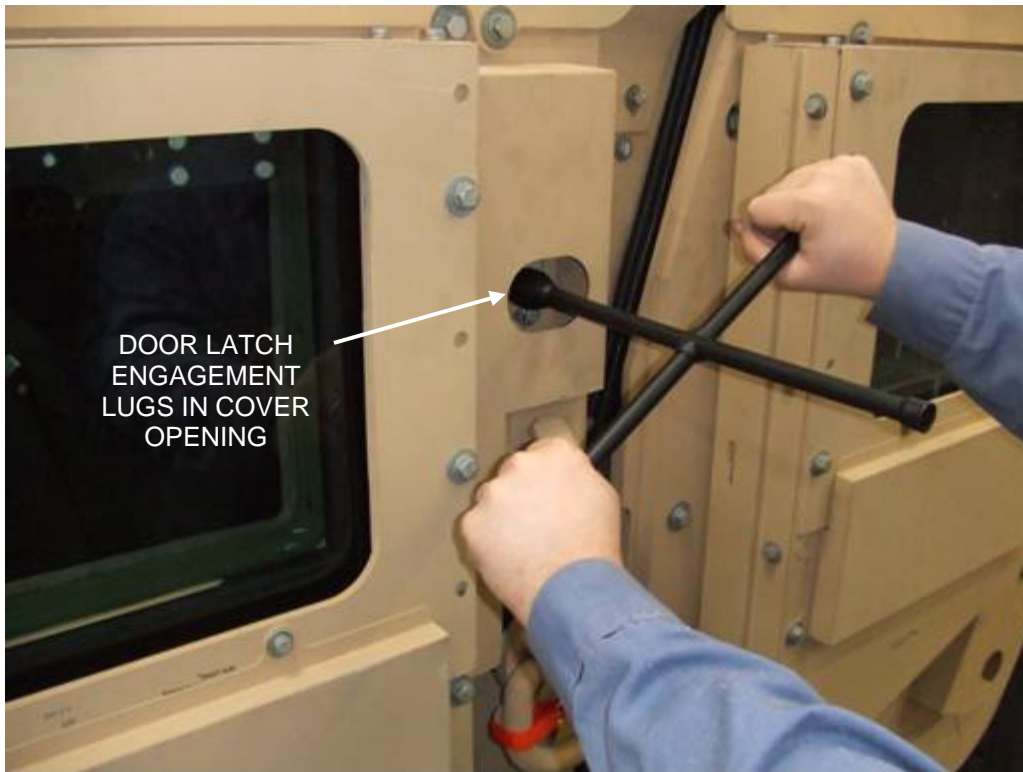

Figure 7
c) Using the 5/8 eight point ends of the Emergency Rescue Wrench, rotate door latch lugs **counter-clockwise on the left side of vehicle or clockwise on the right side** of vehicle to disengage the door latches. Refer to figure 7.